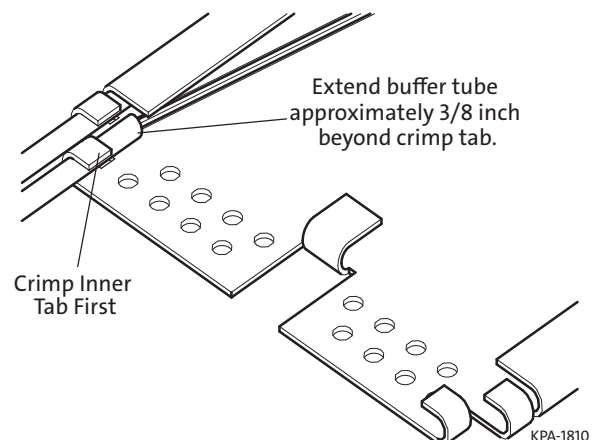

Figure 10
Step 5: Using the inner tab on the splice tray first, position the edge of the buffer tube approximately 1 cm (3/8 in) beyond the tab (Figure 10).